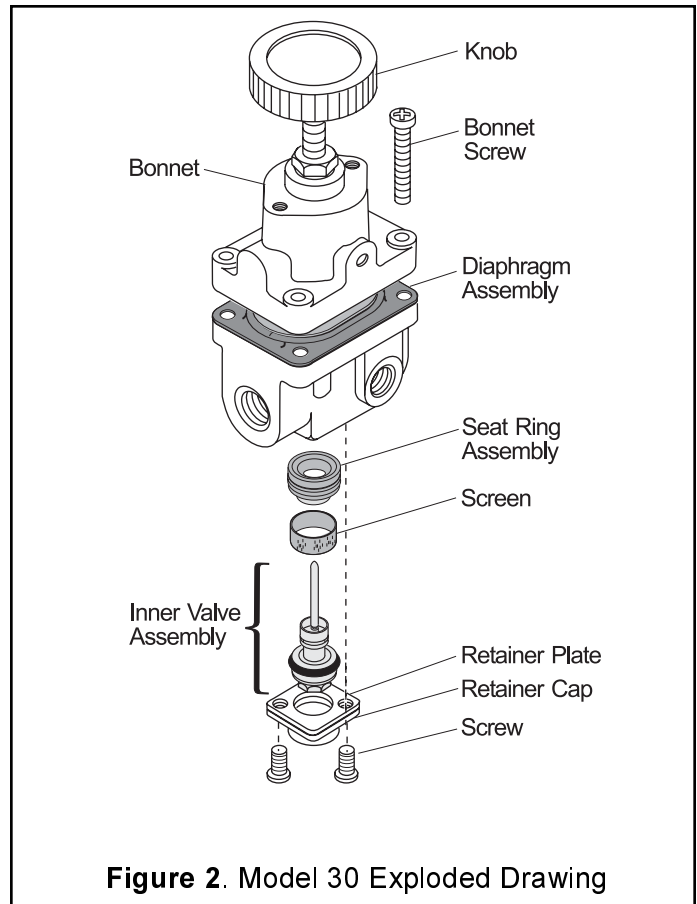

Figure 2. Model 30 Exploded Drawing
3. Remove the Inner Valve Assembly. For more information, see Figure 2.
5. Replace the assembly carefully. For more information, see Figure 2.